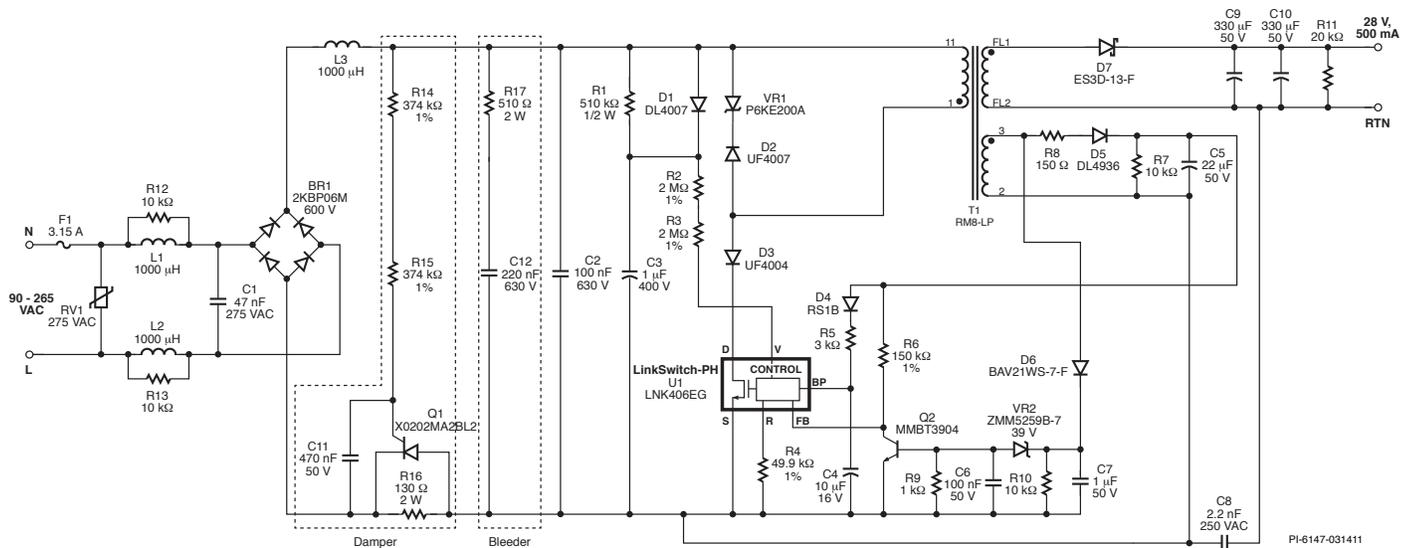

Figure 1. Typical Circuit Example (RD-195) for a Dimmable LED Driver using a LinkSwitch-PH Device.
The circuit in Figure 1 shows the basic configuration of a standard AC TRIAC dimmable LED driver using LinkSwitch-PH. The circuit uses the flyback topology and with the high level integration of LinkSwitch-PH devices, far fewer design issues are left to be addressed externally, resulting in one common circuit configuration for all output specifications. For example, different output power levels may require different values for some circuit components, but the circuit configuration stays unchanged.
- Select either TRIAC dimming (YES) or non-dimming/PMW dimming (NO) configuration [B3]. For TRIAC dimming the value of the R pin resistor (R4 in Figure 1) is 49.9 k Ω , 1% and for non-dimming 24.9 k Ω , 1%.
- The value of the R pin resistor (R4 in Figure 1) programs TRIAC dimming or non-dimming. The value for the feedback resistor (R_{FB1}) is given in cell [D30]. This is the resistor connected from the FEEDBACK pin to the bias supply and is used to sense the output voltage.